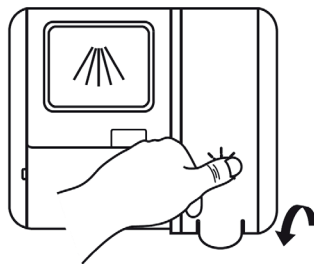

Fig. 5
4. After filling close the rinse aid dispenser cover and tighten it (Fig.. 5).